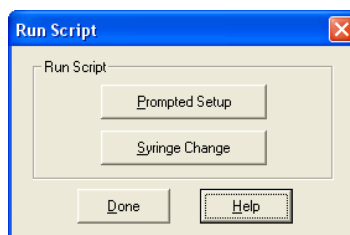

Figure 2-11 Run Script Window
- ▶ The Run Script Window opens (Figure 2-11).